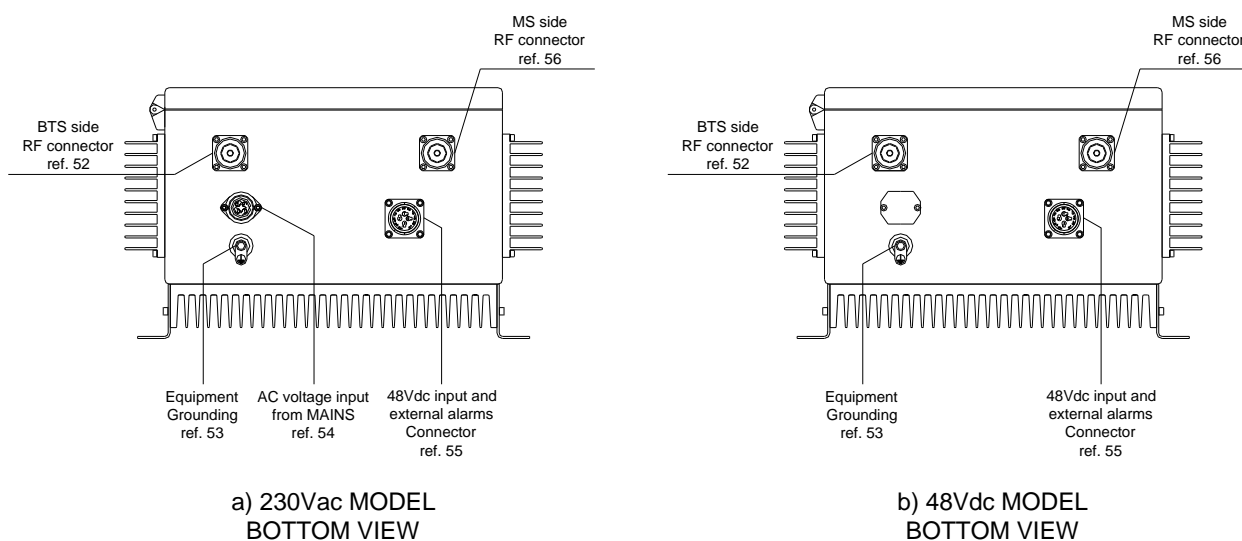

FIGURE 3 – EXTERNAL CONNECTORS
- Before carrying out any other electrical connection connect the rack to the station ground, using the ground bolt on the bottom of the repeater (ref. 53, FIGURE 3).
- Connect the 15-pole (f) connector on the bottom of the repeater (**ref. 55**, FIGURE 3) to the 48Vdc/Alarm cable (supplied with the equipment).
- Connect the 230Vac power cable to the connector located on the bottom of the repeater (**ref. 54, FIGURE 3**). The connector pin assignments are detailed in Table 2.
- Also connect the 48Vdc power and alarms cable, provided standard, to the 15-pin connector located on the bottom of the equipment (**ref. 55, FIGURE 3**).